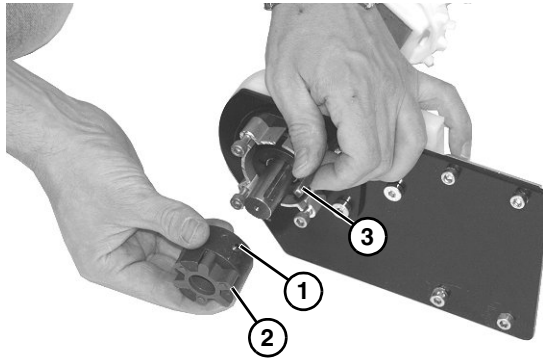

Figure 25
4. Loosen set screw (**Figure 25, item 1**) and remove coupling (**Figure 25, item 2**).
5. Remove key (**Figure 25, item 3**).